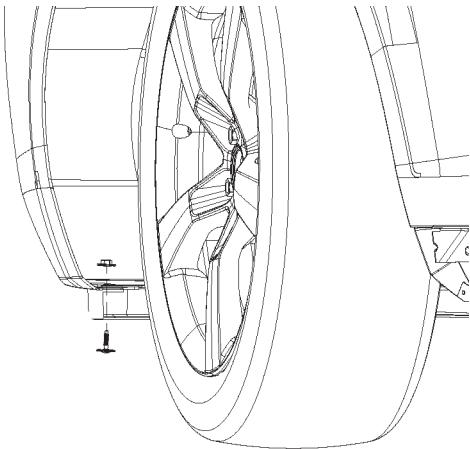

FIGURE 49
6. Remove Plastic bolt and nut from air dam and discard. 1 per side. Refer to figure 49.